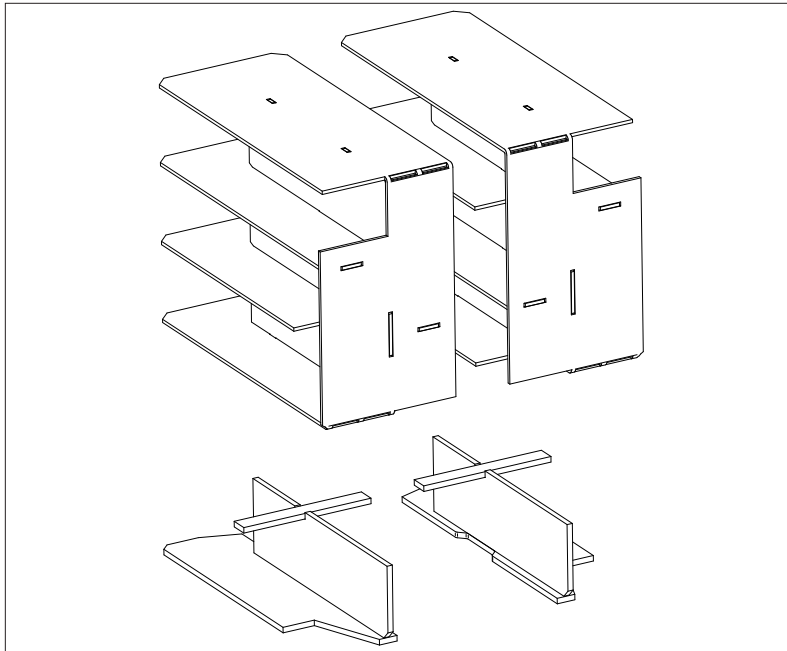

Figure 11-1: Baffles (21 & 26 model)
2. Remove the baffles as shown in Figure 11-1 and 11-2.
6. Replace the baffles, ensuring they are correctly fitted. Refer to Figures 11-1 and 11-2, as appropriate.